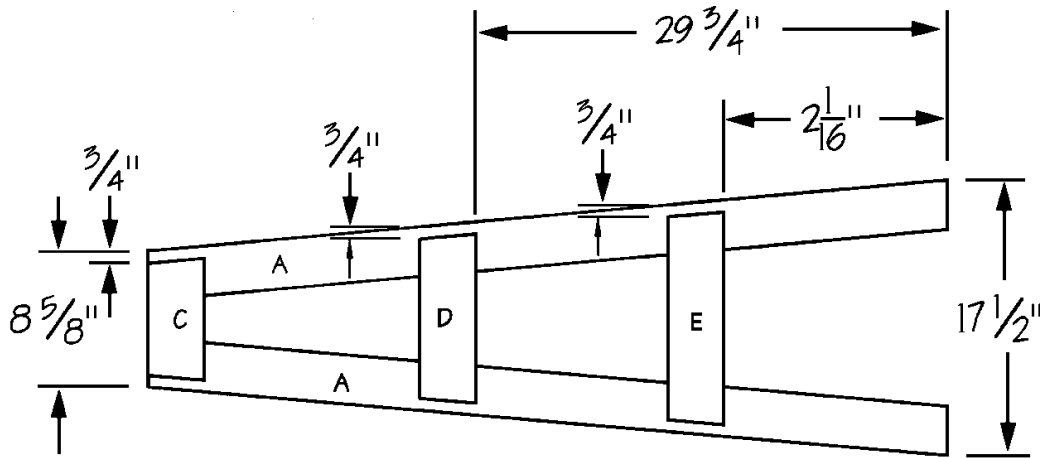

Figure 3
1. Position two Verticals (A) on a level work surface so that they form an upside-down V-shape that is open at the top (see *Figure 3*). The Verticals (A) should be 8-5/8" apart at the top, and 17-1/2" apart at the bottom.
2. The sides of the finished vine trellis should slope in at the top and out at the bottom. Each of the sides has three horizontal supports that determine the angle of the slope. Place all of the supports (C, D, and E) on the Verticals (A) to make certain that the side is properly
assembled before attaching any of the supports to the Verticals (A). Refer to *Figure 3* to check your measurements.
3. Position one Short Top support (C) on top of the two Verticals (A), flush with the top of the assembly. Position one Short Bottom Support (E) over the two Verticals (A), flush with the bottom of the assembly. Position one Short Middle Support (D) over the Verticals (A) in the middle of the assembly, as shown in *Figure 3*. Once all the supports are positioned correctly, apply glue to the meeting surfaces, and screw through the Short Top, Middle, and Bottom supports (C, D, and E) into the Verticals (A), using two 1-1/4" wood screws on each joint.